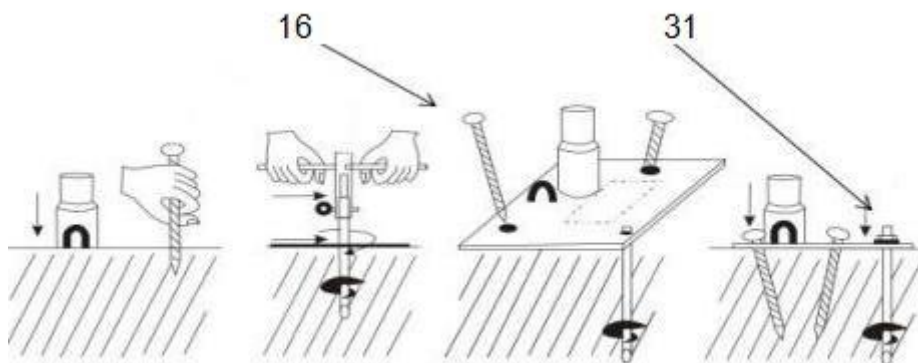

Figure 3
2. There are three holes on the Base Plates (No.5, 7) and two holes on the Base Plate (No. 6), for Stake Peg (No. 16). Refer to Figure 3 to place the stake pegs, THUS ALL BASE PLATES ARE SECURED.
As Figure 3 shows each Base Plate (No.5, No.6 & 7) is equipped with 2 pieces of Stake Pegs (No.16) and 1 piece of sprial pegs(No.31)